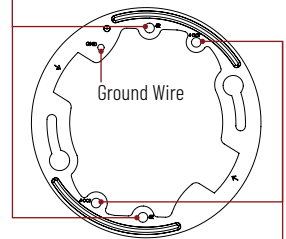

Figure 3
4. While supporting the luminaire, connect the luminaire wires to the supply wires Live/Neutral/Ground. (Figure 3)